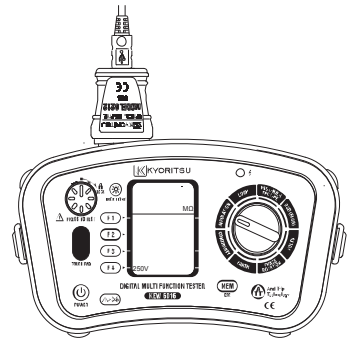

Fig.52
(1) Connect Model8212USB to the USB Port of a PC.(Special driver for Model8212USB should be installed. See the instruction manual for Model8212USB for further details.)
(2) Insert Model8212USB into the KEW6016 as shown in Fig 52. Test Leads should be removed from the KEW6016 at this time.
(3) Power on the KEW6016. (Any function is OK.)
(4) Start special software "KEW Report" on your PC and set the communication port.